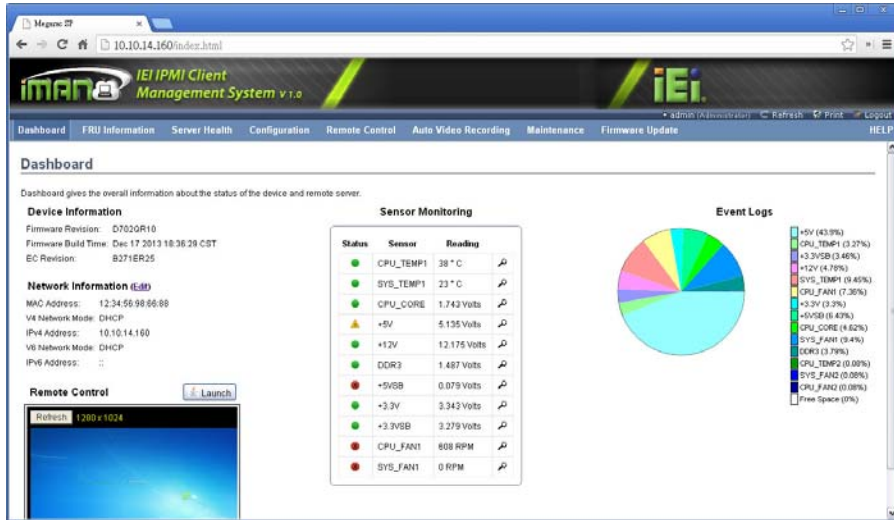

Figure 3-23: IEI iMAN Web GUI
- Step 6:** The IEI iMAN Web GUI appears (**Figure 3-23**).